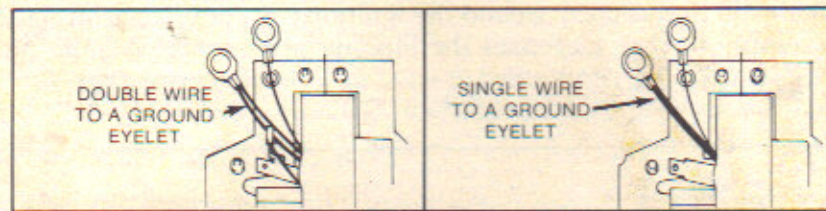

Figure 3
In figure 3, two (2) styles of the composite MAGNETRON® ignition armature assembly are shown. The test procedures for both are identical.